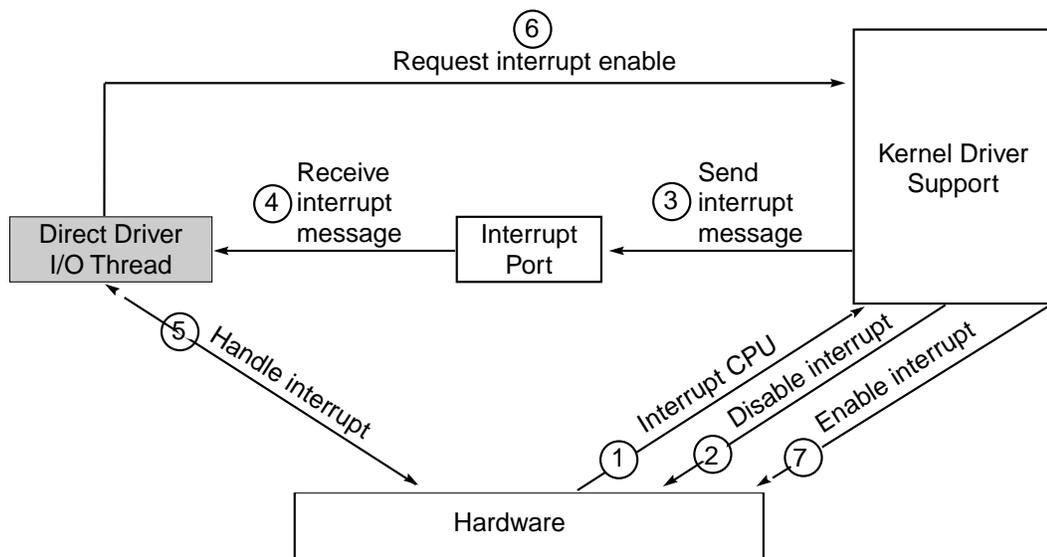

Figure 2-2. Driver Kit Interrupt Handling
Most kernel-level drivers don't handle interrupts directly. Instead, the kernel notifies the driver of an interrupt by sending a Mach message to the interrupt port. An interrupt port is allocated when a direct driver object is initialized by the `attachInterruptPort` method of `IODirectDevice`. Figure 2-2 shows how interrupts are handled by the kernel and the I/O thread of a direct device driver.
As Figure 2-2 shows, when an interrupt occurs (1), the kernel masks off further occurrences of that particular interrupt (2) and sends a message to the appropriate interrupt port (3). It then returns from the interrupt. The interrupt message contains no information except for a message ID in its header that identifies this message as an interrupt message.